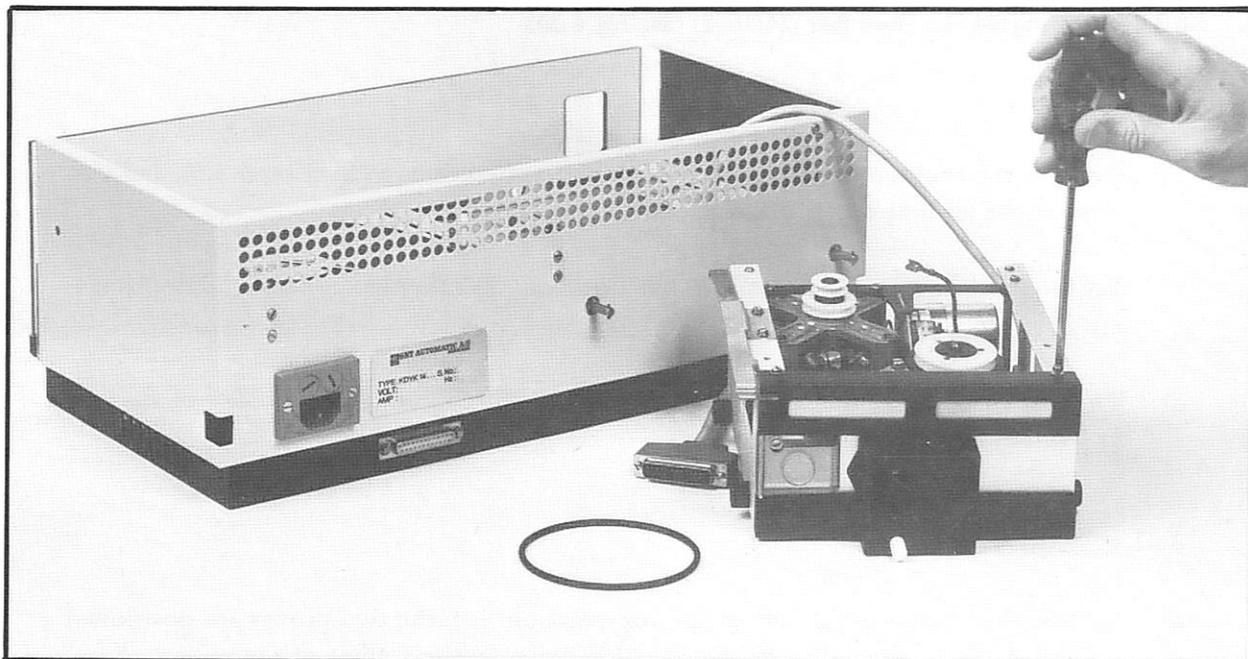

Fig. 6.34 Loosening Visor Screws
- b) Unscrew the 2 screws holding the visor (see Fig. 6.34), and remove the visor. Note that the clear plastic flap comes off at the same time.